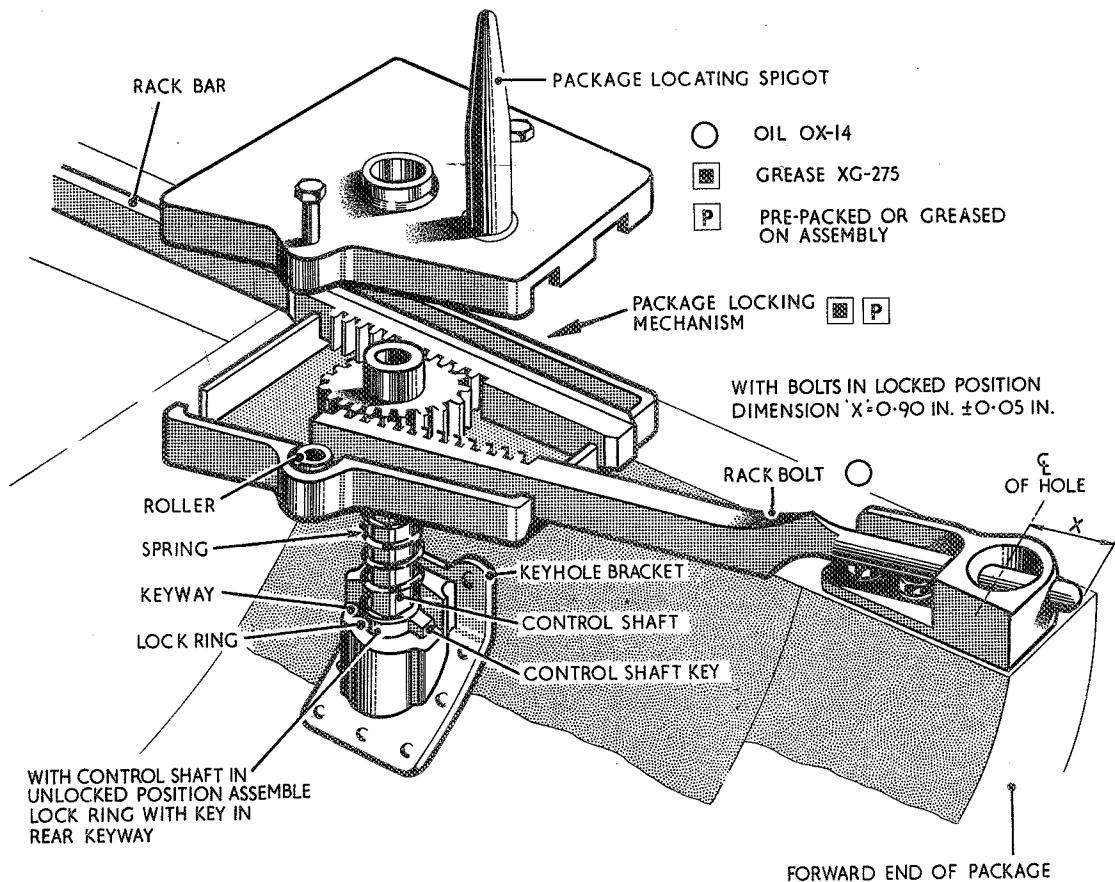

Fig. 4 Bomb pack lock mechanism and lubrication
Locking mechanism (fig. 4)
- (1) Fit lifting spigots (Part No. B.177142) to each side of the fuselage and attach a type 'C' hoist (Ref. No. 4GC/3360) to each lifting spigot and to the hoist attachment bracket on the fuselage, forward of the bomb pack position.
- (2) Position the trolley bearing the bomb pack under the fuselage, place a sling (Part No. C.177141) under the bomb pack at the marked position and attach the hoist cable hooks to the sling. Attach the cable hook of the forward hoist to the attachment point on the bomb pack.
- (3) Check that the bomb pack locking mechanisms (fig. 4) are serviceable, lightly greased and in the unlocked position.
- (4) Operate the three hoists together, under the control of the operator of the forward hoist and raise the bomb pack ensuring that the pack locating spigots enter the spigot holes in the fuselage. During hoisting make sure that fouling of electrical cables or structure does not occur.
- (5) When the bomb pack is in the fully raised position, lock it in this position